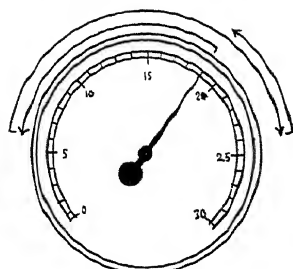

Fig. 23.—LEAKY PISTON RINGS
13. Leaky Piston Rings (Fig. 23)